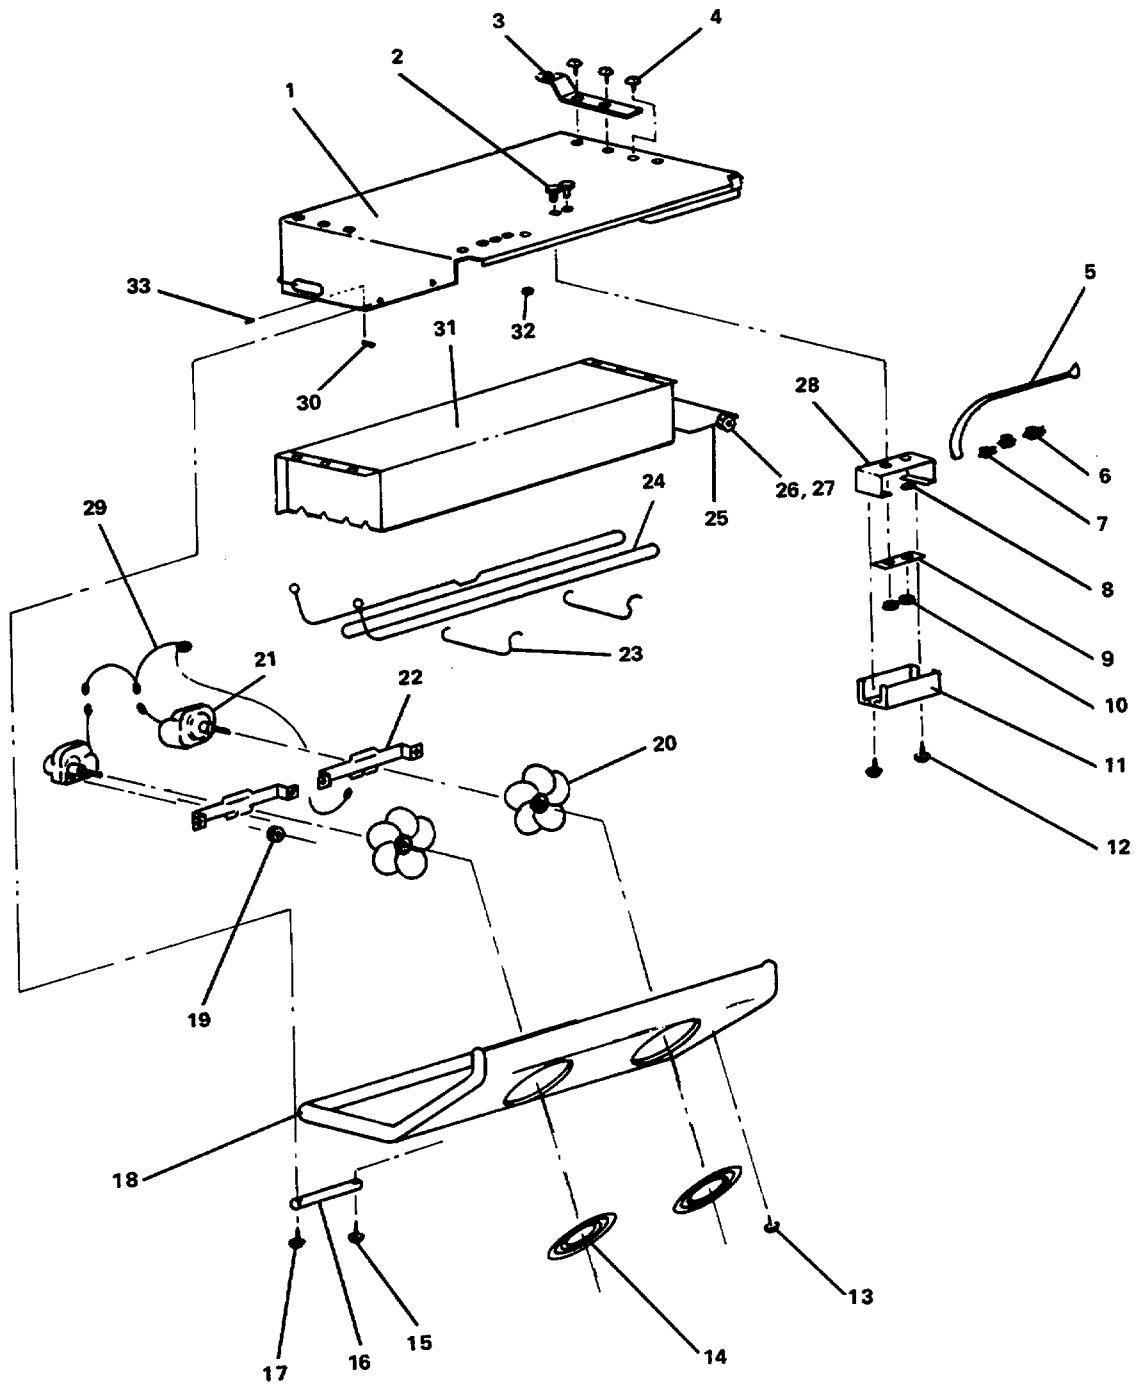

FIGURE 3-79. *Repair F-20 Mechanical Freezer - Refrigeration Evaporator Coil.*
**3-81. Repair F-20 Mechanical Freezer - Refrigeration Evaporator Coil. (Figure 3-79)****This task covers:****a. Disassembly****b. Repair****c. Assembly**INITIAL SETUP:Tools